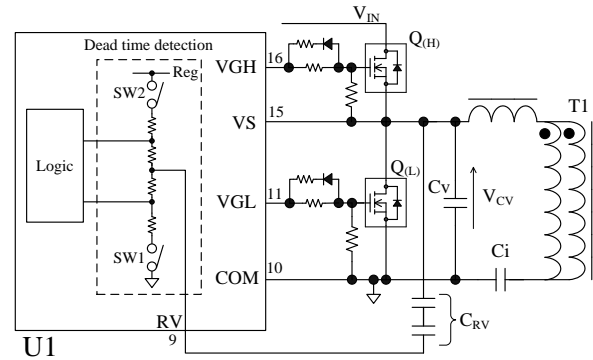

Figure 8-19. RV Pin Peripheral Circuit and Dead Time Detection Circuit
Figure 8-19 shows the RV pin peripheral circuit and the internal dead time detection circuit. The external components for this function is only high-voltage ceramic capacitor,  $C_{RV}$ , connected between the VS pin and the RV pin. The value of  $C_{RV}$  is about 5 pF.
After  $Q_{(L)}$  turns off, SW2 is turned on while SW1 is kept on state. The resonant current flows through  $C_V$ ,  $C_i$  and  $T1$  (refer to Figure 8-19) and the  $C_V$  voltage,  $V_{CV}$ , increases from 0 V. When  $V_{CV}$  becomes Equation (11), the resonant current flows through the body diode of  $Q_{(H)}$  and  $V_{CV}$  is clamped  $V_{IN} + V_{F(H)}$ . The period that until  $V_{CV}$  is clamped after  $V_{CV}$  starts to increase is defined as the voltage resonant period.
After  $Q_{(H)}$  turns off, SW1 is turned on while SW2 is kept on state. The resonant current flows through  $C_V$ ,  $C_i$  and  $T_1$  (refer to Figure 8-19) and the  $C_V$  voltage,  $V_{CV}$ , decrease from the input voltage,  $V_{IN}$ .